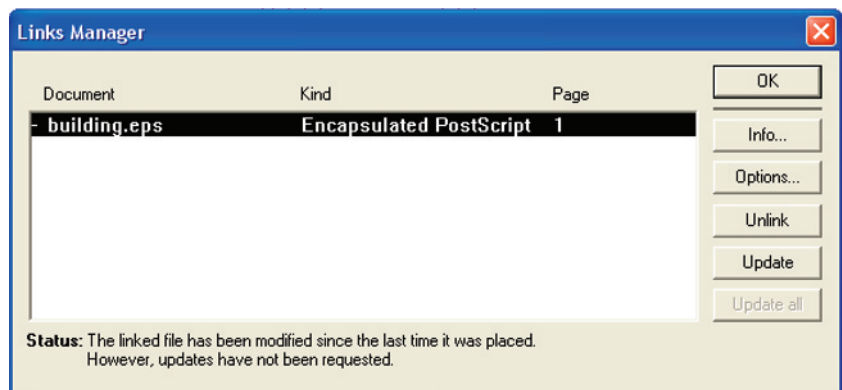

Fig. 10.6 The **Links Manager** dialog of PageMaker
8. Go back into **PageMaker** and *click* **Links Manager...** in the **File** drop-down menu. The **Links Manager** dialog appears (Fig. 10.6). Against the name of the **building.eps** file name is a dash and a note at the bottom of the dialog explaining that changes have taken place in the drawing from which the *.eps had been derived. *Click* the **Update** button and when the document reappears the drawing in PageMaker no longer includes the erased title.